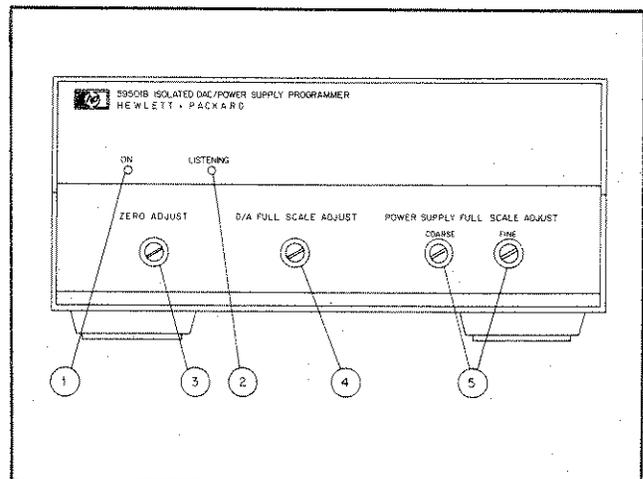

Figure 3-1. 59501B Front Panel
3-7 The 59501B front panel contains a power on indicator, a status indicator and four controls (screwdriver adjustments) as shown in Figure 3-1.
3-8 The power on (ON) indicator ① (Figure 3-1) lights and the 59501B's internal supply voltages (+15V, $\pm 15V$, V_{DD}) are present when the line cord is plugged-in.